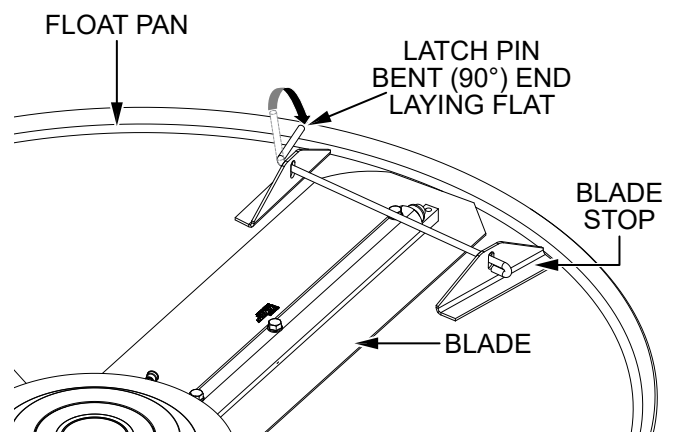

Figure 58. Latch Pin Placement
4. After it has been routed through the blade stop holes, rotate each latch pin so the end that is bent approximately 90 degrees lays flat on the surface of the float pan. See Figure 58.